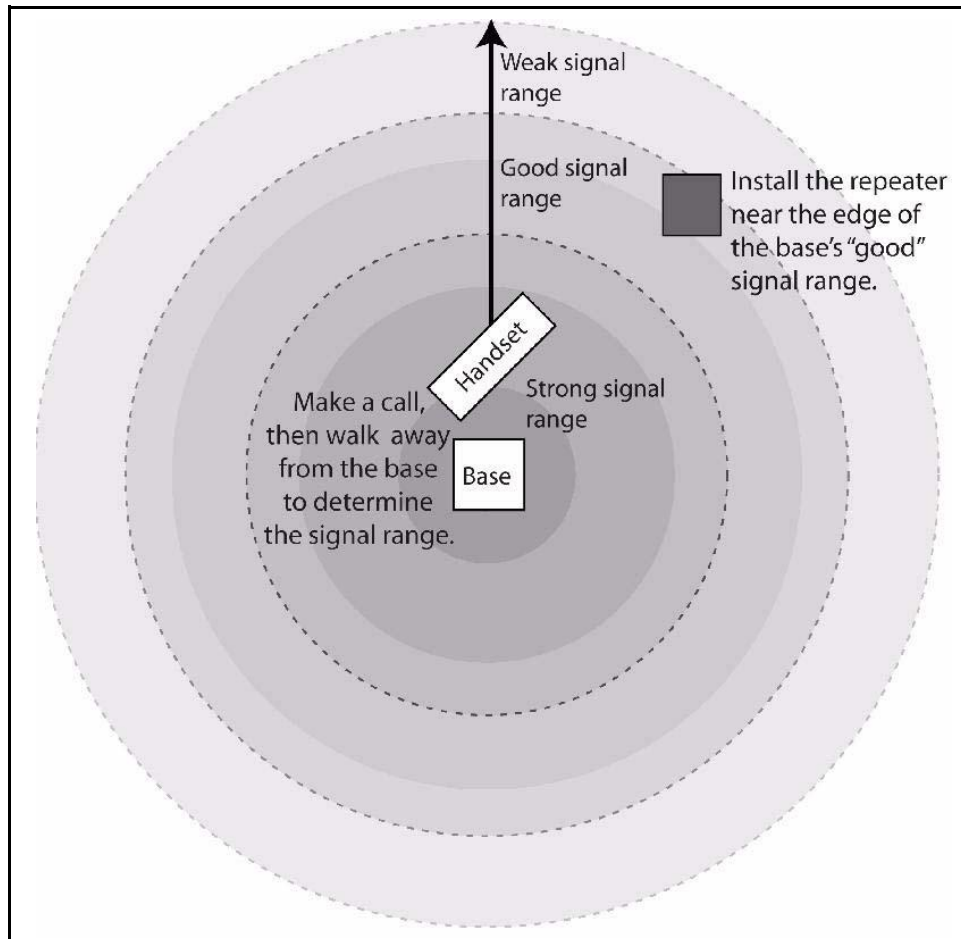

Figure 9 – Mapping the Base Station Coverage Area
3. Make a note where you start to hear noise on the line, which indicates the signal is getting weaker. Refer to Figure 9 on Page 8.